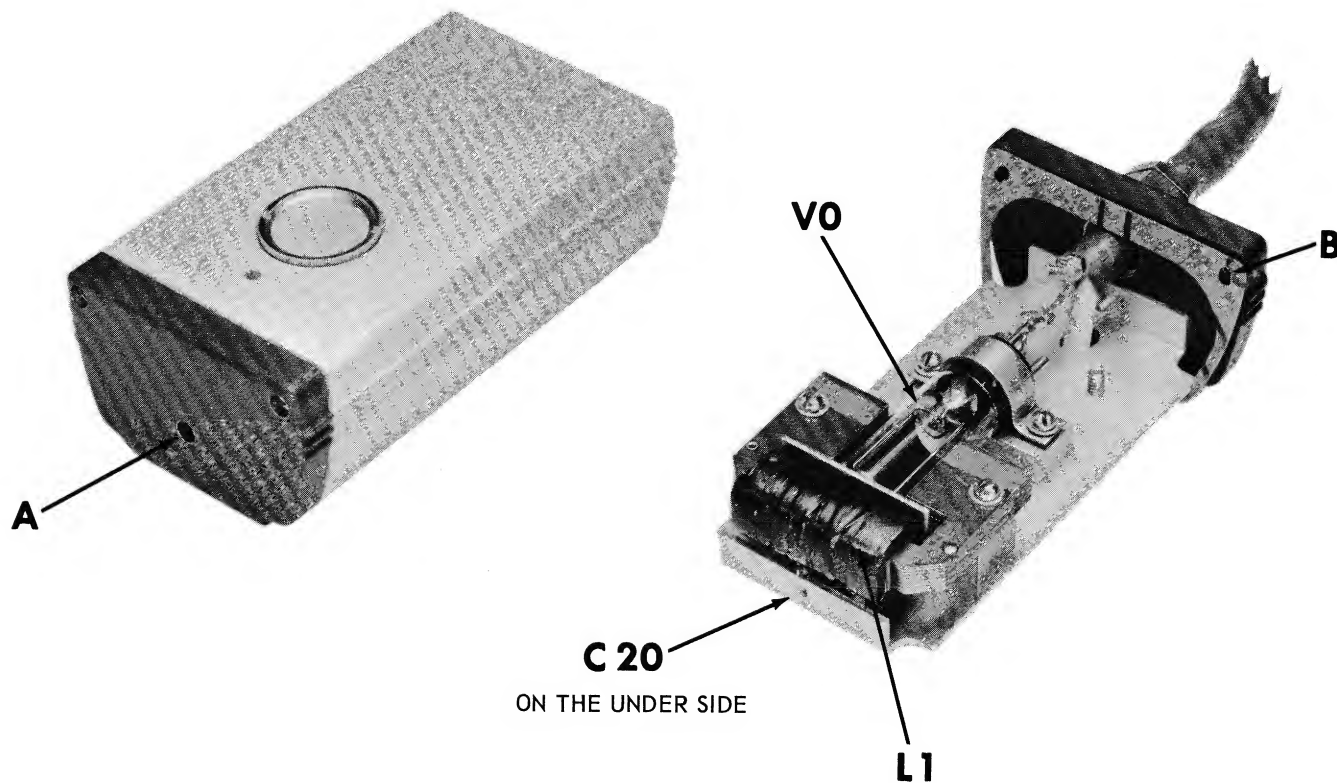

Fig. 7: View of Probe Elements open for servicing.
- a. Remove 2 screws, "A" in Fig. 7, and one screw "B" in Fig. 7.
- b. Pull Phototube assembly out of case at cable end (see Fig. 7).